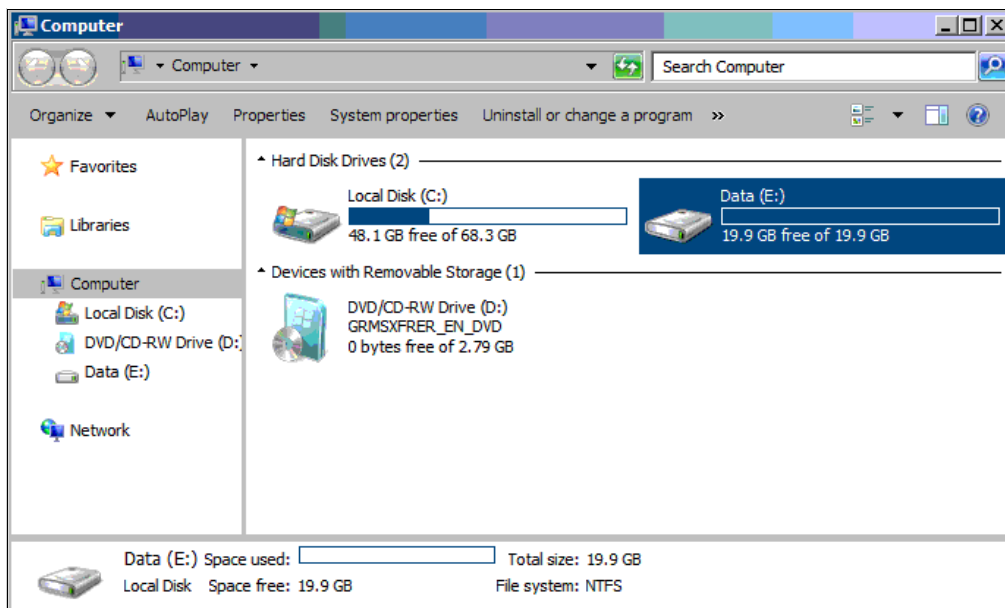

Figure 18-19 Logical drive is ready for use
- We can now access the logical drive on the DS3500 as drive letter E: as shown in Figure 18-19.